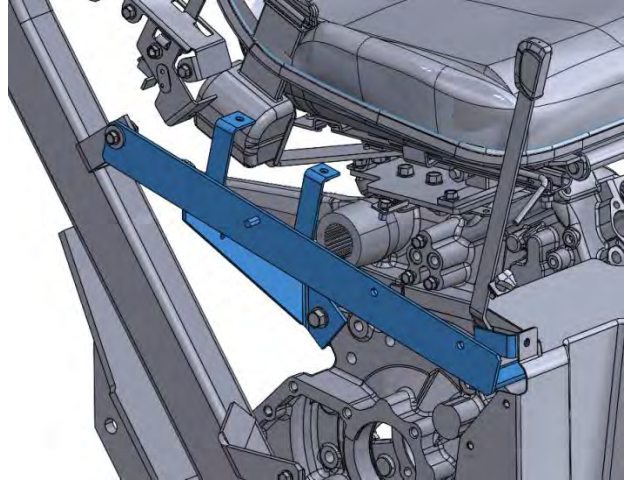

Figure 2: Fender support bracket
3. Remove the fender support bracket. (Fig. 2)